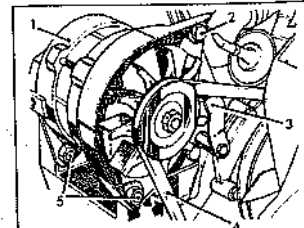

Fig. 10.3 Alternator fixing and drivebelt tensioning (Sec 8)
- 8 Where necessary, slacken the adjustment bolt, and the mounting bolts (Fig. 10.3).